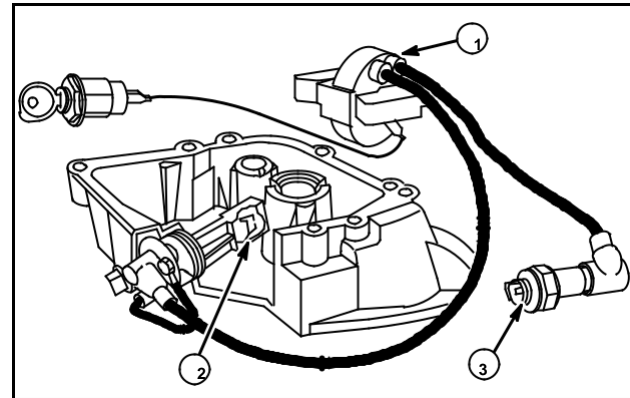

Fig. 15
Two types of Oil Gard have been used; float operated type, Fig. 14 and spark gap type, Fig. 15.
When oil level drops to the point where the spark gap is exposed to air in the crankcase, the resistance of the gap is lower than the spark plug (3) gap and spark will fire across the Oil Gard sensor instead of the spark plug, stopping the engine. The engine cannot be restarted until the oil level is returned to normal, Fig. 15.